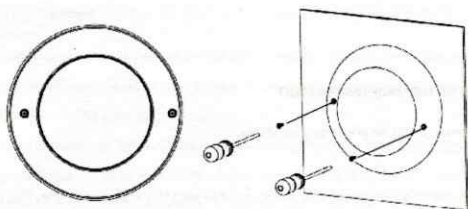

Figure 6 Figure 7
- The TOP sign on the light should be lined up with 12 o'clock position. If there's not a TOP sign, the screw hole on the face ring of the light should be lined up with 12 o'clock position. (See Figure 6)